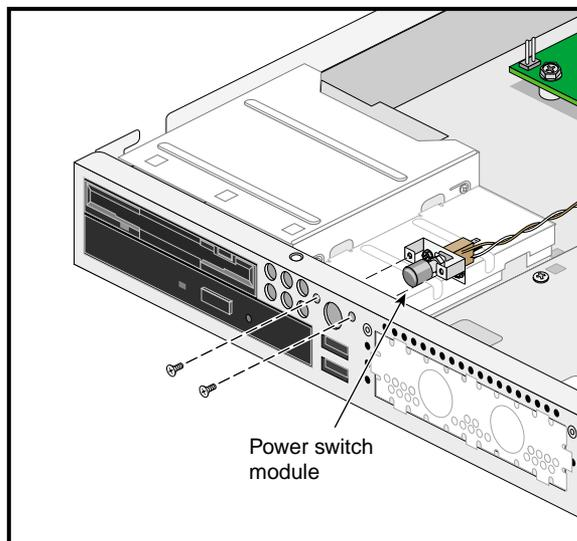

Figure 2-19 Installing the Power Switch Cable Module
1. Set the power switch cable module in place and secure it with two screws as shown in Figure 2-19.